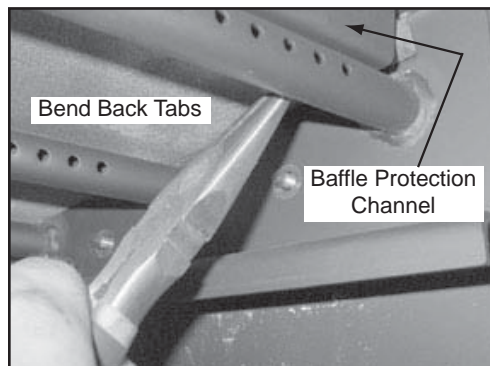

Figure 20.1
2. Remove the baffle protection channel by bending back the tabs using needle nose pliers located at the right and left side of the protection cover. Lift the cover up slightly and pull toward the front and out of the firebox. **Figure 20.1**